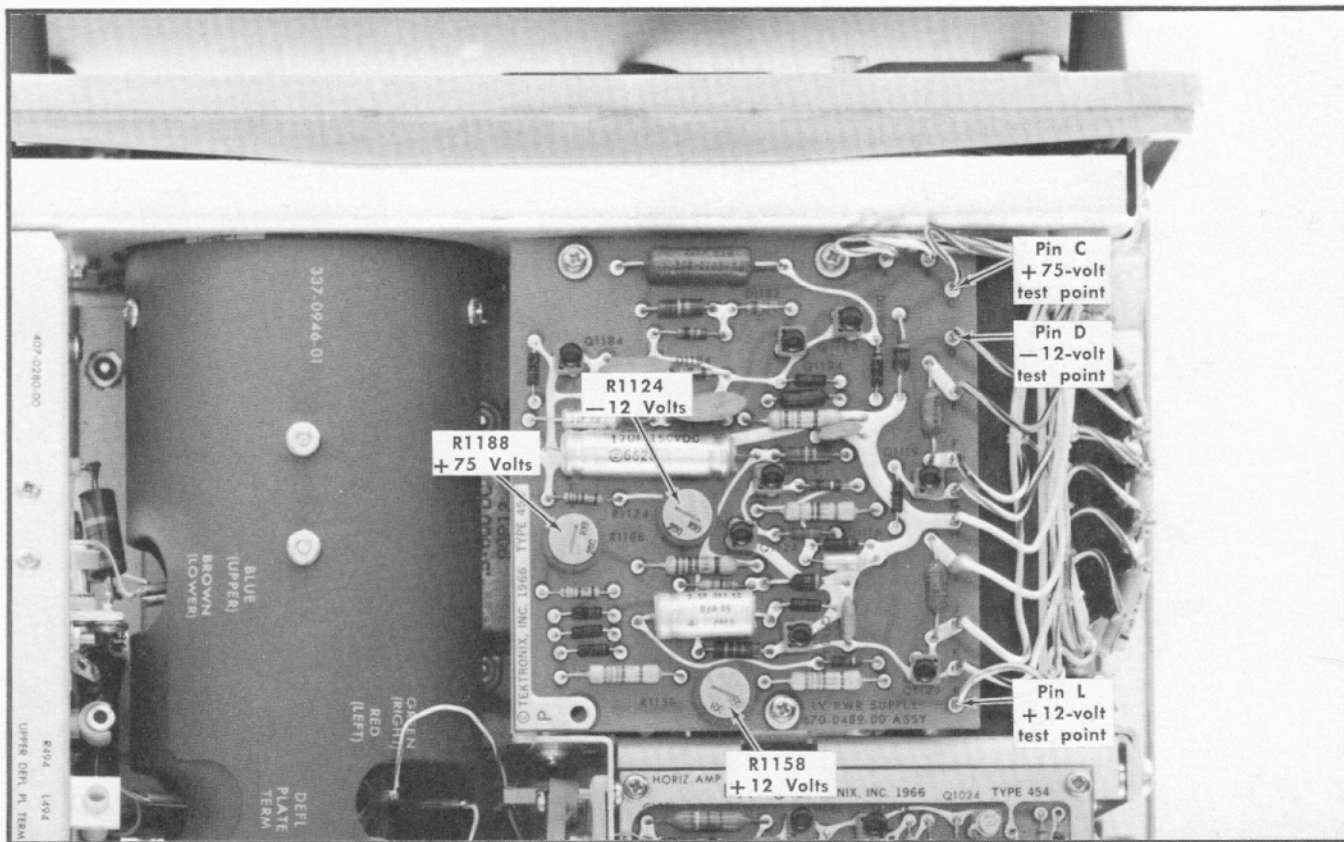

Fig. 6-4. Low-voltage power supply test points and adjustments (Low-Voltage Regulator circuit board).
- Connect the precision DC voltmeter from the —12-volt test point (pin connector 'D', Low-Voltage Regulator board; see Fig. 6-4) to chassis ground.
- ADJUST— —12 Volts adjustment, R1124 (see Fig. 6-4), for —12 volts.
d. ADJUST—+12 Volts adjustment, R1158 (see Fig. 6-4), for +1 volt.
f. Connect the precision DC voltmeter from the +12-volt test point (pin connector 'L', Low-Voltage Regulator board; see Fig. 6-4) to chassis ground.
c. ADJUST—+75 Volts adjustment, R1188 (see Fig. 6-4), for +75 volts.
①
a. Connect the precision DC voltmeter from the +75-volt test point (pin connector 'C', Low-Voltage Regulator board; see Fig. 6-4) to chassis ground.